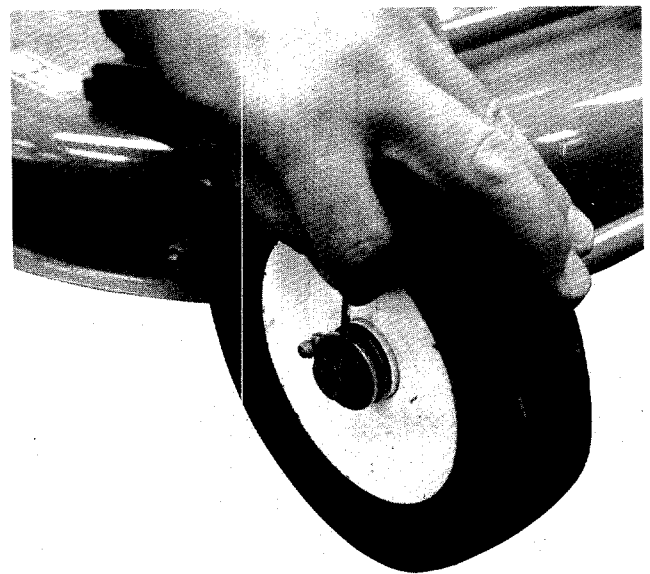

FIGURE 4. DECK WHEEL ASSEMBLY
- d. Attach the free end of the positive cable and the small wire from the ammeter to the positive battery terminal with bolt (D), washer (F) and nut (E).
- e. Attach the free end of the negative cable to the negative terminal of the battery. Use bolt (D), washer (F), and nut (E).
Place the deck wheel over the deck axle and secure it with washer (I) and cotter pin (K). See figure 4.